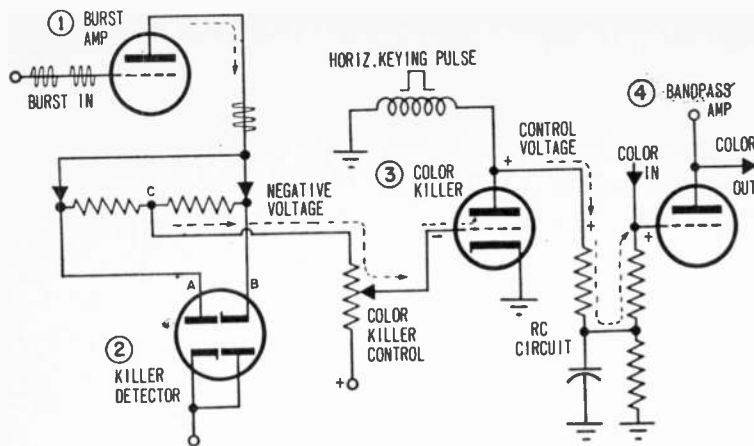

Fig. 3. Simplified schematic of typical killer circuit. Gating of killer stage by horizontal keying pulse makes circuit operation virtually immune to noise.
Tracing the Schematic. A simplified diagram of the killer circuitry in many of today's color sets is in Fig. 3. We can begin at the burst amp (1) shown receiving the burst signal. After amplification, the burst is applied across the killer detector (2). This stage is a pair of diodes such as might be found in the detector of an FM receiver and the function is similar: it converts a radio signal (here, 3.58 MHz) into DC by acting as a rectifier. Burst voltage is applied across the dual-diode tube, at plate A and cathode B. Resultant current flow through the stage creates a negative voltage between the load resistors (see point C).